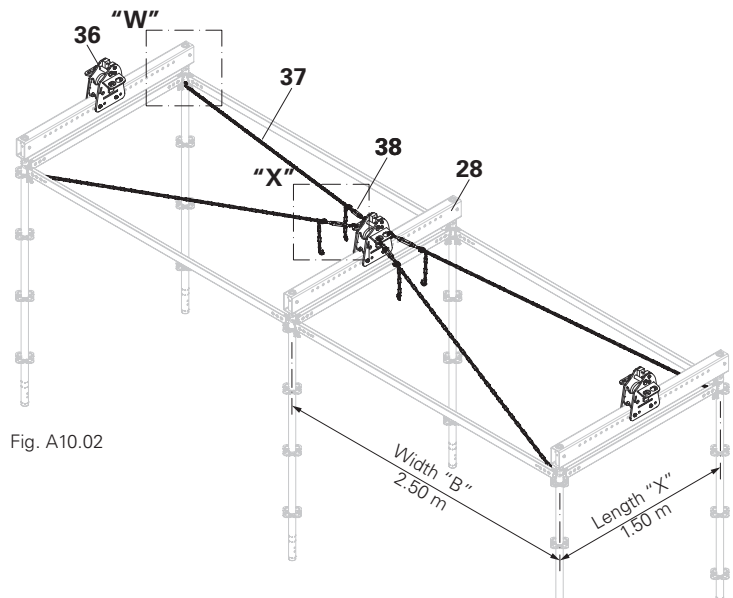

Fig. A10.02
- either marries up with the load-bearing substructure and is variant 1, see Fig. A10.02
- The bearer with bracing has been fitted. (Fig. A10.02)